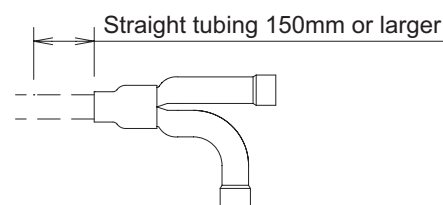

Fig. 2-297
- For branching tubes, install 150mm or larger (including reducer) straight tubing up to the point where the tube branches (or after the point where the tubes join together). (Fig. 2-297)